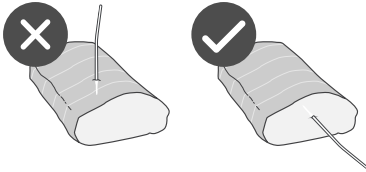

Figure 3.1
1. Insert the thermometer probe straight into the center of the **thickest** part of the meat. **[Figure 3.1]**